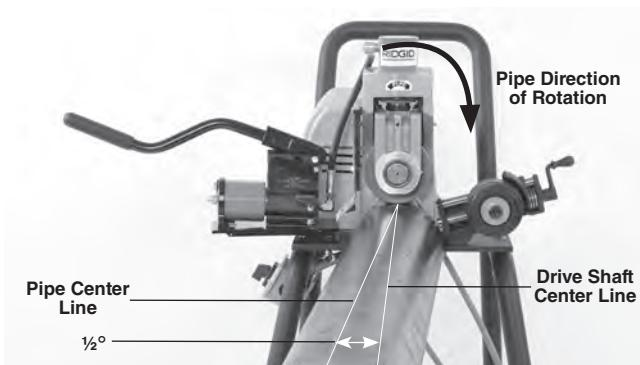

Figure 12 – Offsetting the Pipe $1/2^{\circ}$, (Exaggerated)
roll rotates in a clockwise direction matching the pipe rotation decal on the groover. See *Figure 12*. Have the machine serviced if it rotates in the wrong direction or if the foot switch does not control its stopping or starting.
7. Slightly offset the pipe and pipe stands approximately $\frac{1}{2}$ degree (about 1" over at 10 feet from the roll groover) towards the operator. Proper alignment of the pipe and roll groover helps to ensure proper tracking of the pipe while grooving (See *Figure 12*). This is proper offset for grooving and works with the stabilizer.
- Slightly increase the offset of the pipe (increase from $\frac{1}{2}$ degree to 1 degree) See *Figure 12*.